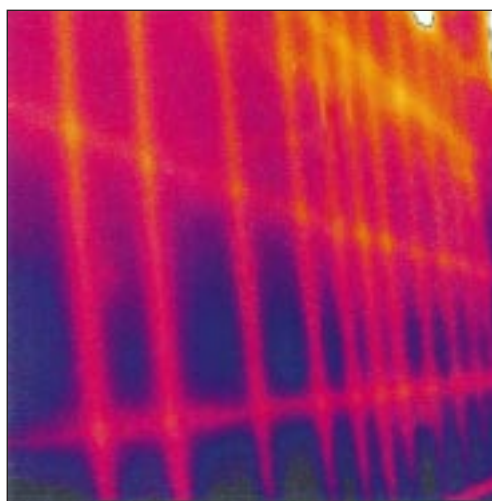

Fig 13 Heat losses from the outer skin of the oven, showing greater heat loss from the panel edges
- undertaking a thermal imaging survey to identify where heat is being lost from oven walls, Fig 13 illustrates the heat losses from a poorly constructed oven.